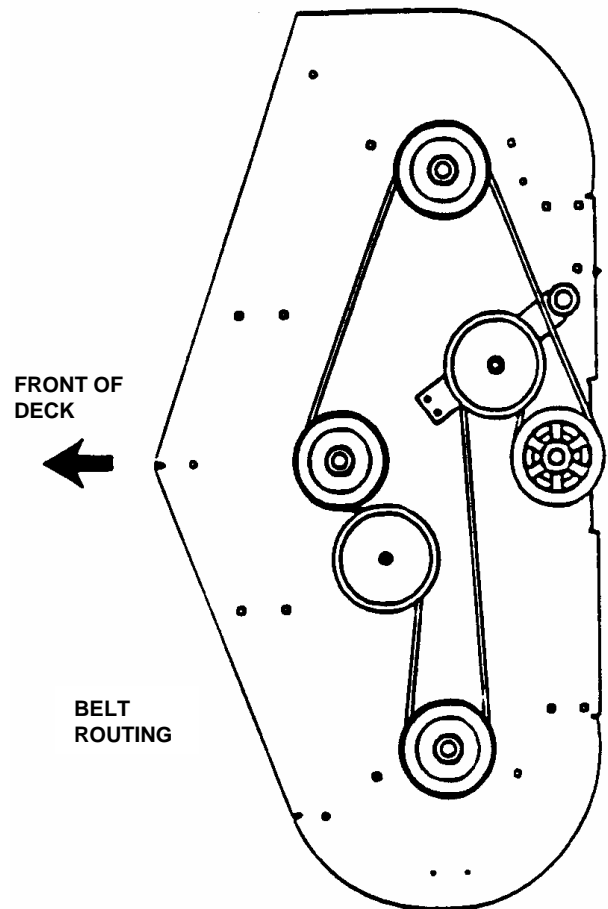

FIGURE 4.7
1. Route belt around blade pulleys and idler pulley in same the position as old belt was removed. It may be necessary to use a pry bar to pull idler pulley back to install belt. See Figure 4.7.